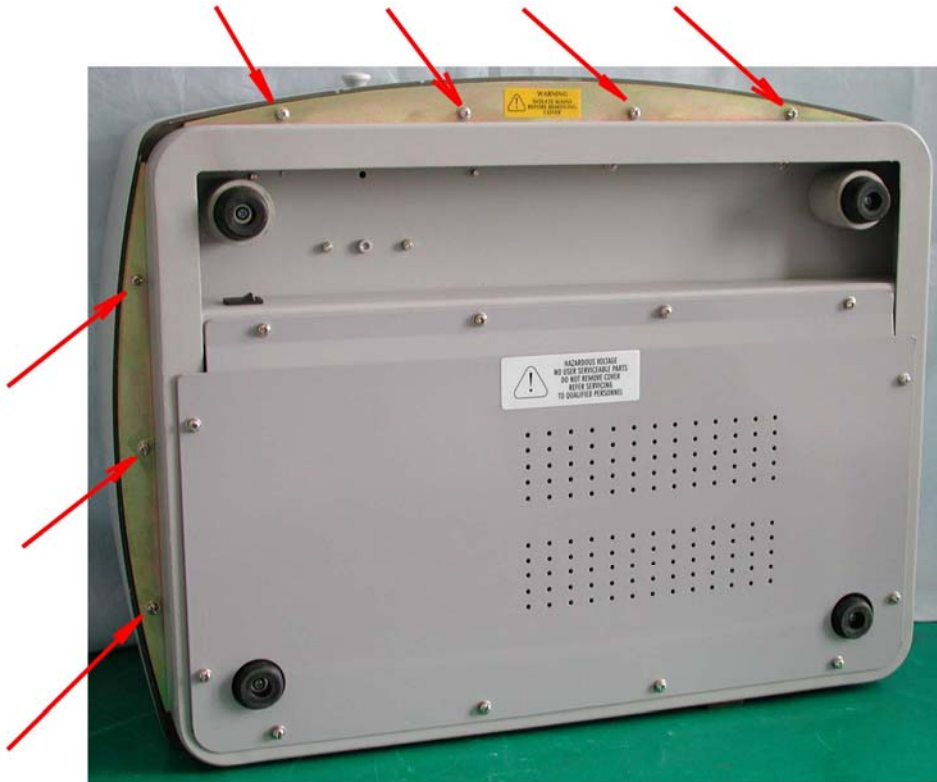

Figure 7.1 Remove the cover screws
3. Remove the all screws around the sides of the spectrophotometer. Show in Figure 7.1.